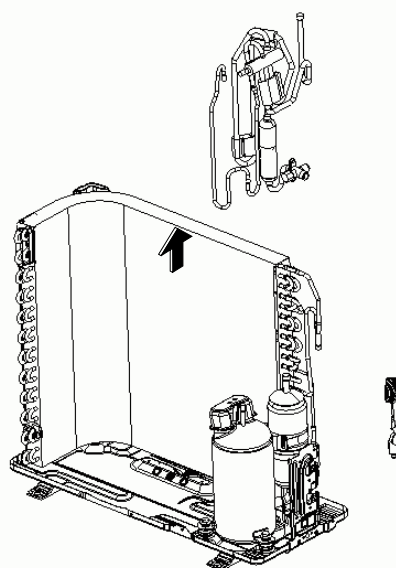

Fig. 65
- (3) Solder off the pipe connected with the compressor. (Fig.65)